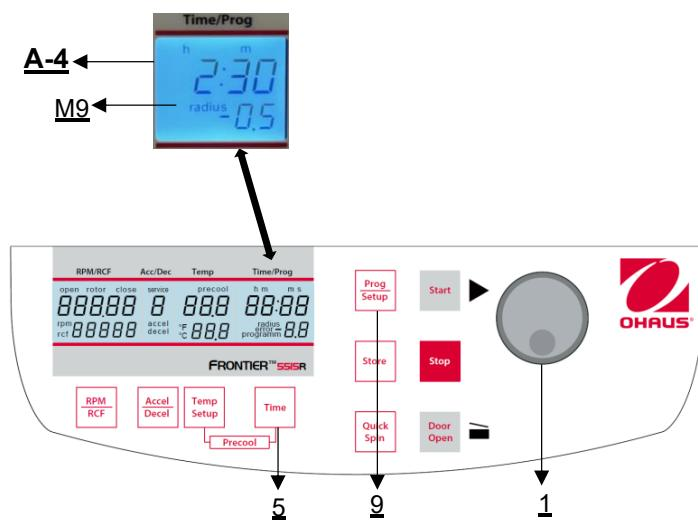

Figure 21
First, close the centrifuge lid, then press the key "**Time**" (5) and the key "**Prog/Setup**" (9) at the same time and hold them (**see Figure 21**).